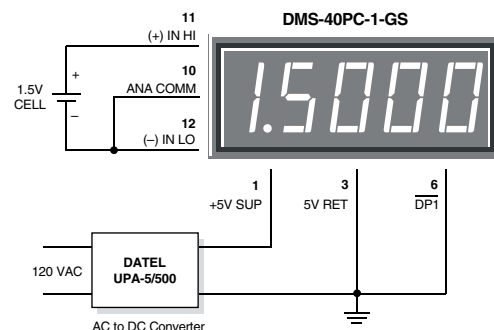

Figure 5. Floating Input Measurements
4. Floating Signal Source Measurements: A floating input is a signal that, before it is applied to the DMS-40PC's inputs, has no galvanic connection (direct current path) to the meter or the meter's power supply. The circuit shown in Figure 5 illustrates the necessary connections for measuring floating inputs. The 1.5V battery represents a true floating input signal since it initially has no connection whatsoever in common with the meter. Real-world floating inputs typically originate from power supplies which are transformer isolated from the DMS-40PC's +5V supply.
As the timing diagram in Figure 5 indicates, 100Hz is the optimum display scan rate when the BCD outputs are used to drive external LED displays. Faster scan rates, while permissible, are not necessary. Slower scanning, however, may result in noticeable "flickering" of the display. Common anode LED's, combined with a 74LS247 BCD to seven-segment decoder, is the simplest way of implementing an